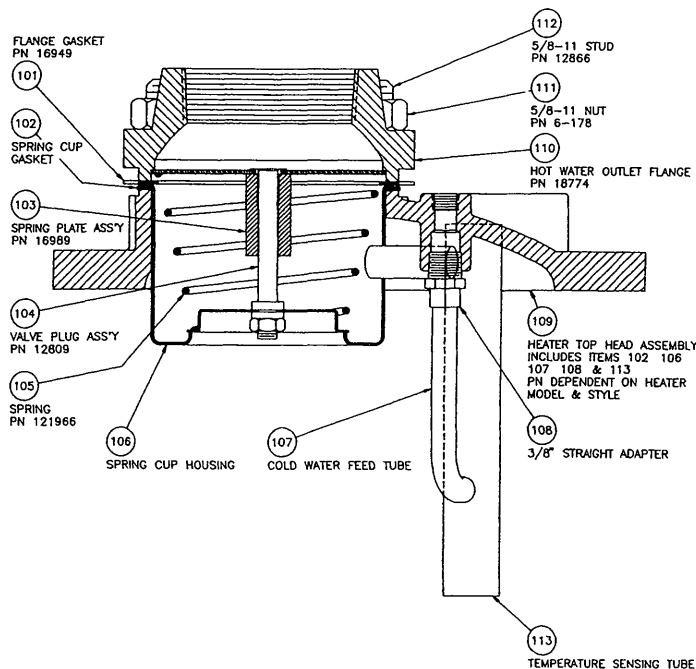

Figure HE 106-12 -- Anticipator Check Valve Assembly
- D3 See Figure HE-106-12. Remove Nuts (111), the Hot Water Outlet Flange (110) along with the piping connected to the Flange
- D4 Separately, lift out the Spring Plate Assembly (103), Flange Gasket (101), Spring (105), and Valve Plug Assembly (104)
- The leak or leaks may be repaired by brazing However, if this does not stop the leak or leaks, the entire U-Bend Tubing assembly (11) must be replaced Either reassemble the Heater and return the entire Heater to AERCO for repair (see Step D26 below) or remove the U-Bend Tubing assembly and return only that assembly to AERCO for repair (see Step D26 below)
- D23 To disassemble the U-Bend Tubing assembly from the Heater, remove Nuts (2) and Studs and lift the assembly off the Manifold and Skid Assembly (10)
- D25 If necessary, for any reason, to remove the Heater Top Head (16) from the Shell (15)
- Disconnect the Compression Fitting (19) at the top of the Shunt Tube (18)
- Remove all piping and wiring to the Relief Valve (52) and Water Solenoid Valve (51), if any
- Remove the Nuts (2), Studs, and Lifting Lugs (5) Then lift the Head off the Shell
- Inspect the Anticipator assembly (Figure HE-106-12) for any damage If it is damaged, either order a new Head Assembly (16), which includes the Anticipator, from AERCO, or return the Head Assembly to AERCO for repair (see Step D26 below)
See Figure HE-106-12
- R1 Insert the Valve Plug (104), and Spring (105) into the Spring Cup Housing (106) Place a NEW Flange Gasket (101) on the Housing flange
- R2 Insert the Spring Plate Assembly (103) into the Spring, taking care to center it as closely as possible
- R3 Line up the Hot Water Outlet Flange (110) on the Studs (112) in the Heater Top Head (109), MAKING SURE that the Spring Plate Assembly (103) is centered in the groove in the bottom of the Outlet Flange (110) as shown in Figure HE-106-12
- R4 Replace Nuts (111) and tighten the Outlet Flange leak tight to the Heater Top Head